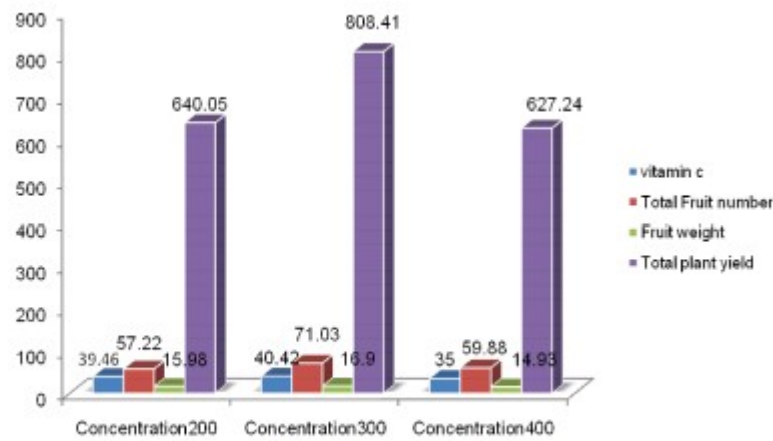

Fig. 1: Effect of potassium concentrations on quality traits in strawberry cultivars.
**Fig. 1.** Three-dimensional chemical structures of phosphate ( $\text{H}_2\text{PO}_4^-$ ; Pi) and phosphite ( $\text{H}_2\text{PO}_3^-$ ; Phi) forming tetrahedral structures.